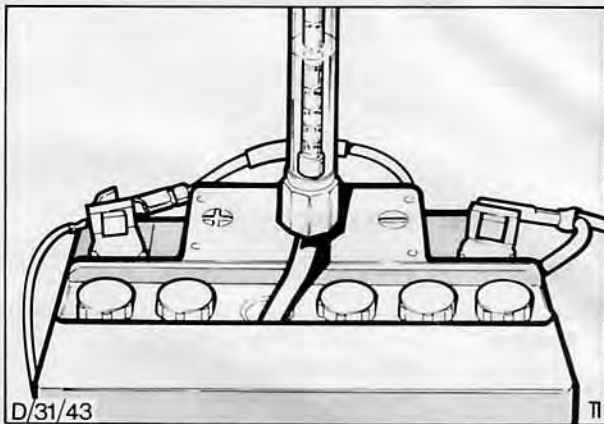

Fig. 6. Checking battery electrolyte specific gravity
2. Clean battery and check condition using hydrometer and high rate discharge meter. Check the specific gravity of each cell in turn, Fig. 6. If the battery is fully charged it should be at least 1,275. When carrying out the high rate discharge test the voltage across the battery should be at least 8 volts. If it is less than this an internal battery fault is indicated.